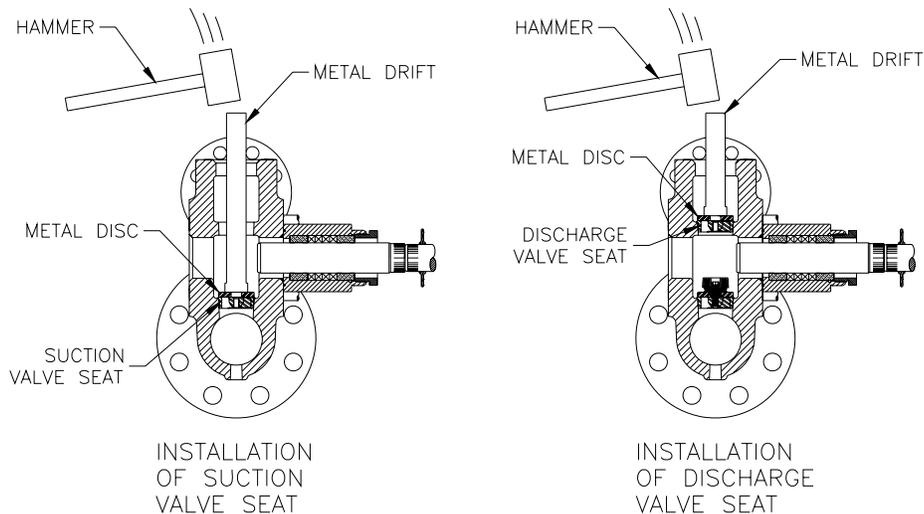

Figure 7
- Using a metal plate or old worn valve body, drive the seat into place with several sharp blows from a hammer and bar. See Figure 7.